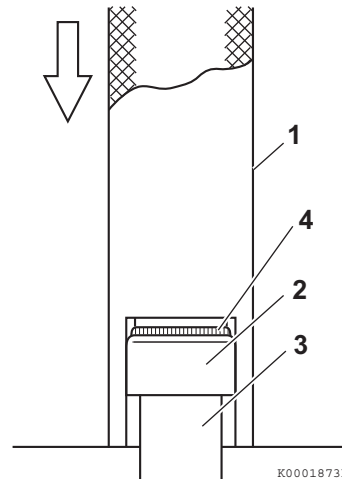

Figure 6-29
1. Oil the lip of the valve stem seal (**Figure 6-29, (2)**). Using the valve stem seal installation tool (**Figure 6-29, (1)**), install a new valve stem seal on each of the valve guides (**Figure 6-29, (3)**).